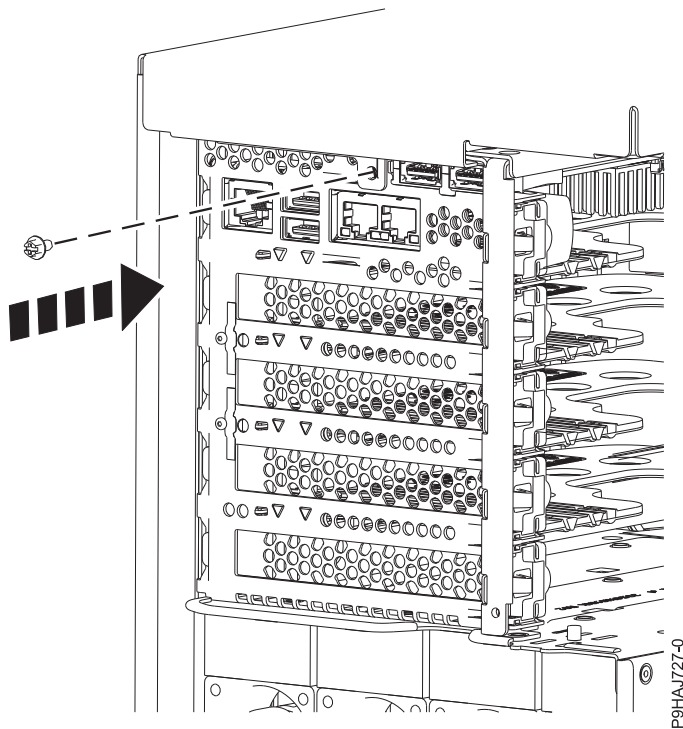

Figure 17. Installing the side cover screw
5. Install the side cover rear screw with a Phillips screwdriver as shown in Figure 17.